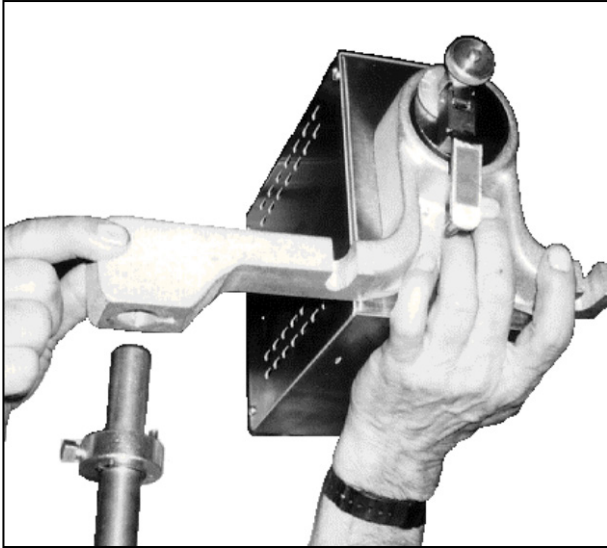

Figure 1-5. Mounting the cutter head.
1. Set the cutter head onto the swing column. (See Figure 1-5.)